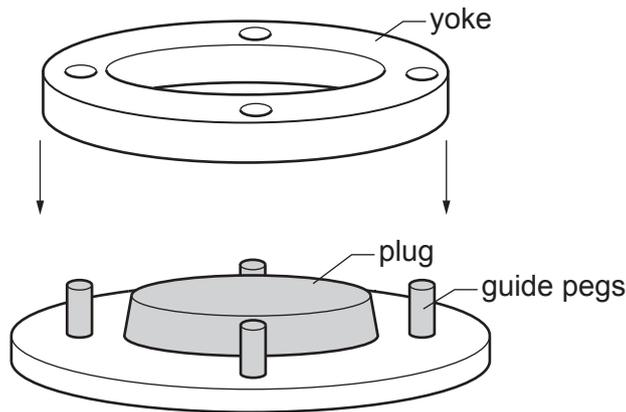

Fig. 13.5
- (e) The base of the desk tidy could also be made by press forming a sheet of 1.5 mm thick acrylic. Fig. 13.5 shows the yoke and plug used in the press forming process.